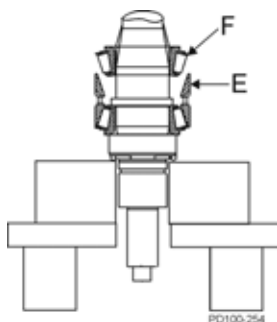

Figure 81 - Install Upper Cup & Upper Cone
- Place the upper cup (Figure 81, item E) on top of the outer spacer.
- Lubricate the remaining upper cone and roller assembly (Figure 81, item F) with oil or grease and slip it over the shaft with the roller radius facing up. Press it onto the shaft and into the upper cup.